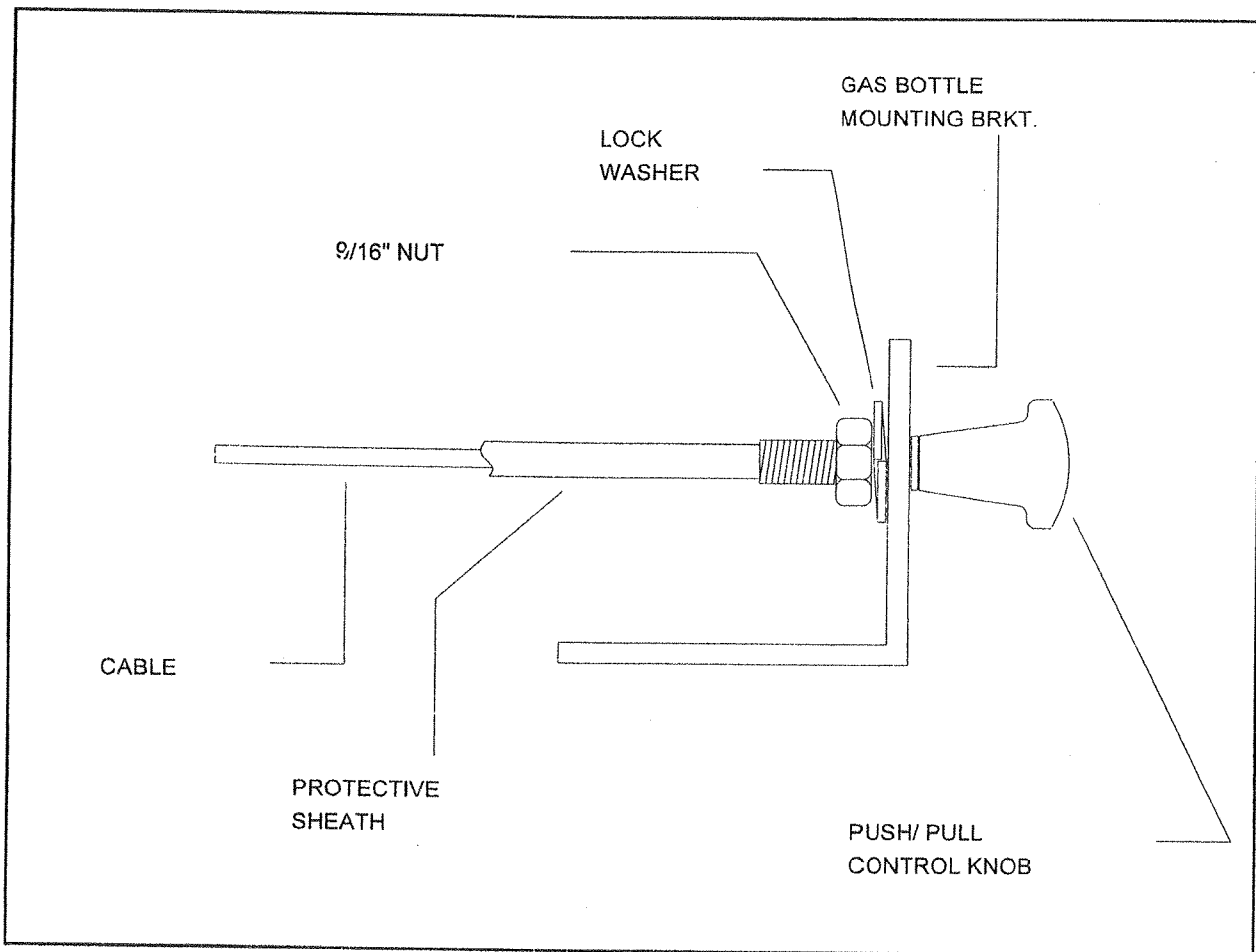

Figure 3
9. Using a 9/16" wrench, completely remove the nut and the lock washer from the threaded portion of the push/pull control assembly. See figure 3.
13. **For Americana and Grand Tour series only:** Guide the push/pull control assembly through the front gas bottle angle or pump mounting plate and tighten the nut and lock washer against the gas bottle or mounting plate using a 9/16" wrench. See figure 3.